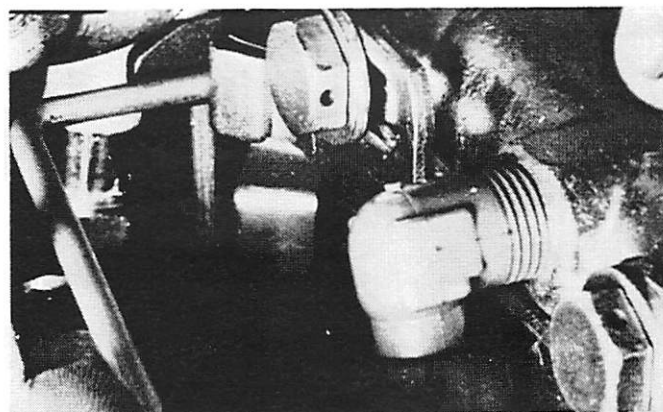

Figure 7. Reverse Starting Switch Adjustment, Early Merc 700-600 Engines
- c. Turn distributor in reverse direction until throttle pickup lever just touches drill or rod. (Figure 7)